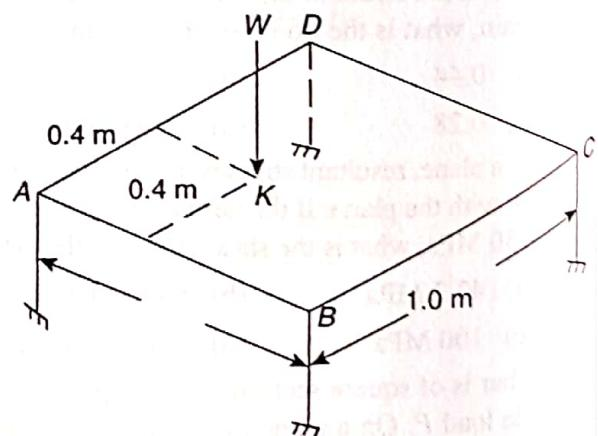

Figure 1.63
- A rigid square plate $1 \times 1 \text{ m}$ is supported over four legs A, B, C and D . A load W is applied at point K as shown in Fig. 1.63. Determine the compressive force in each leg. If the cross-sectional area of each leg is 20 mm^2 and $W = 1,000 \text{ N}$, what are the stresses in each leg?